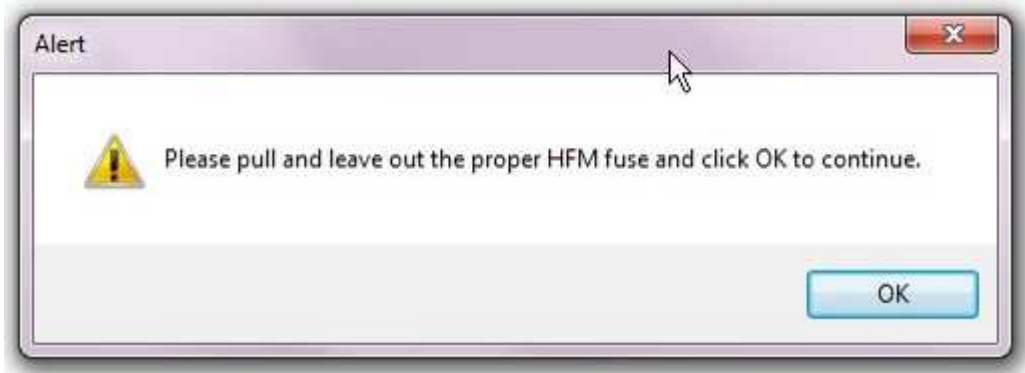

Fig. 12
9. Remove the HFM fuse and then click on OK (Fig. 12) .